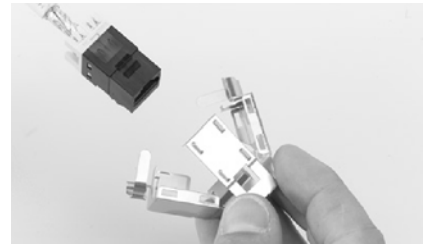

Figure 22
10. Insert the SL Jack into the shield. See Figure 22.